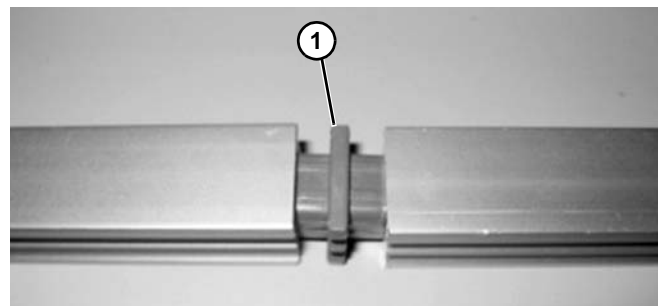

Figure 101
1. Connecting plugs (**Figure 101, item 1**) are pressed into two guide rail ends with soft hammer.